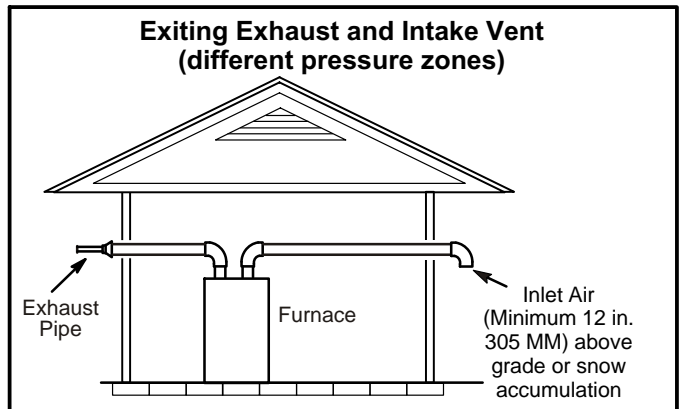
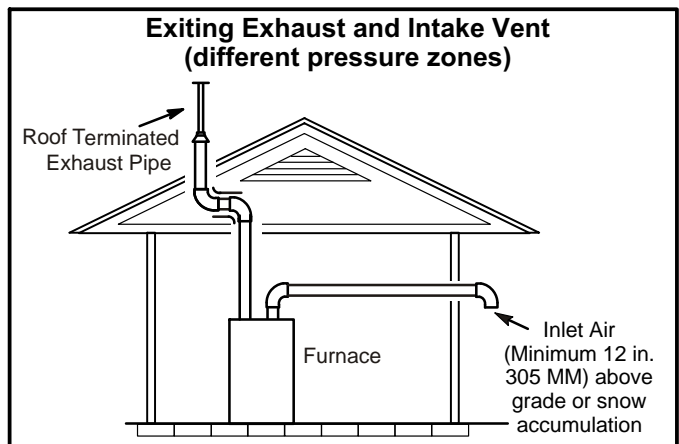

FIGURE 36
FIGURE 37
- 1 - Intake and exhaust terminations are not required to be in the same pressure zone. You may exit the intake on one side of the structure and the exhaust on another side (figure 36). You may exit the exhaust out the roof and the intake out the side of the structure (figure 37).